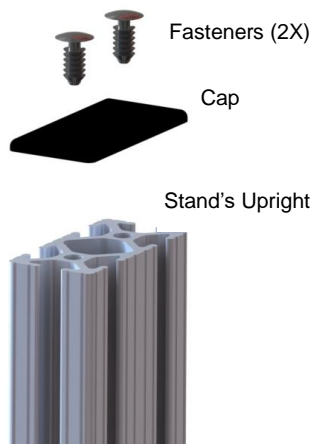

Figure 1. Remove Cap and Fasteners
2. Remove the cap and 2 fasteners from the stand's upright. These are push-in fasteners, not screws, and can easily be removed by pushing upward on the plate (Figure 1).